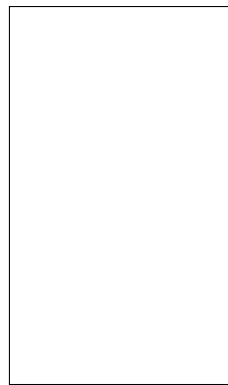

Figure 5: Schematic of the connection between Arduino UNO and the MCP4921.
1. Using Fig. 5 as a reference, connect the Arduino UNO to the MCP4921 DAC. Connect V_{DD} to 5 V and both AV_{SS} and \overline{LDAC} to ground. A 0.1 μF and 1 μF capacitors could be used at V_{REF} to minimize noise